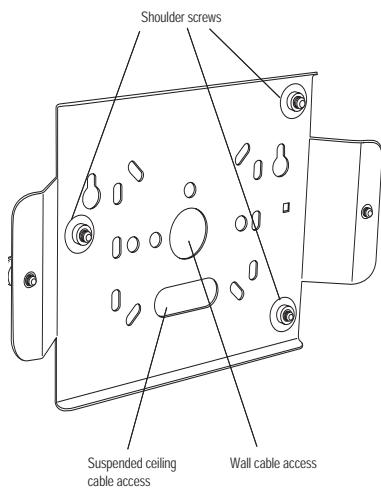

Figure 13: Location of Shoulder Screws
2. Insert the three screws into the locations indicated in Figure 13.